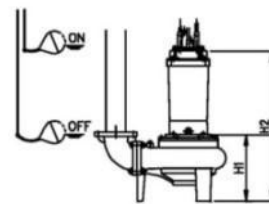

Fig.3
- g) Manual type pumps do not have an automatic operating system based on built-in floats. Do not operate the pump above ten minutes with the water level near the minimum operating level as the automatic cut-off switch incorporated inside the motor will be activated. To avoid dry operation, install an automatic operating system, as shown in Fig.3. Water levels H1 and H2 are shown in the following table.